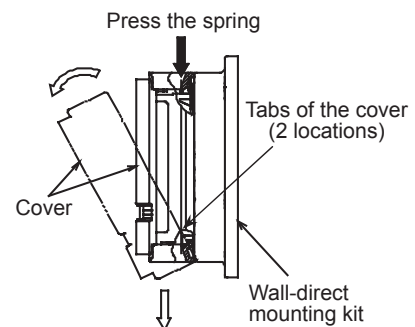
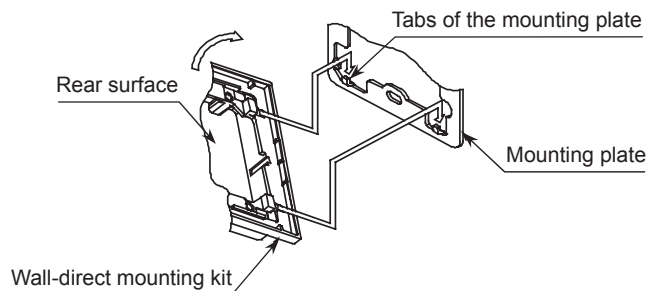
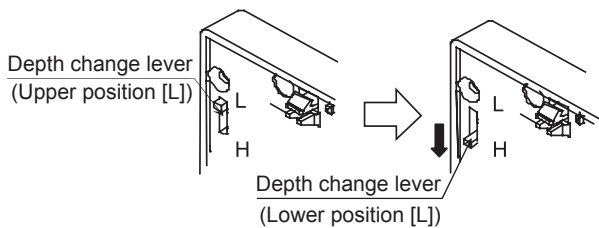

Figure 4. Cover removal
Figure 7. Assembling the Wall-direct mounting kit
Figure 10.
- (1) Attach the mounting plate of the Wall-direct mounting kit to the outlet box cover (JIS C8340:1999 Boxes and box covers for rigid metal conduits (mounting dimension: 66.7 mm)) on the mounting surface.
- (2) Attach the main unit of the Wall-direct mounting kit to the mounting plate. (See Figure 7.)
- (3) Connect the modular cable of Neosensor with the cable from the load.
- (4) Connect the modular cable to the main unit.
- (5) Remove the cover from the main unit as shown in Figure 4.
- (6) Set the depth change levers on the bilateral sides of the main unit to the upper position (indicated with "L" shown in Figure 10).
- (7) Mount the main unit of Neosensor on the main unit of the Wall-direct mounting kit with four mounting screws (M3, L = 16) supplied with Neosensor.
- (8) Attach the cover back to the main unit and complete the installation (See Figure 4).
- (1) Attach mounting plate of the Wall-direct mounting kit to Thermoplate for connecting to pipe.